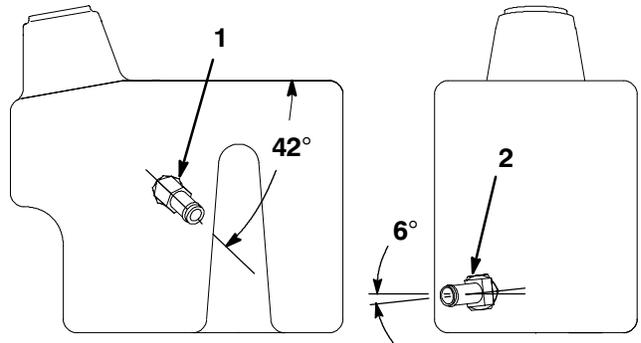

Figure 3
1. Thread a new 3/4" 45° fitting and 7/8" 45° fitting in new hydraulic tank and position as shown in Figure 3.